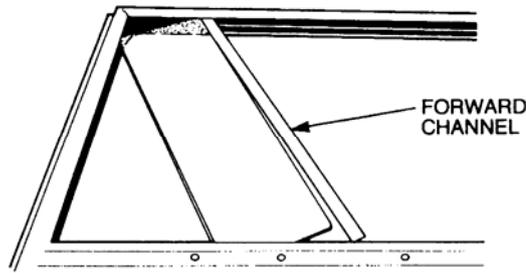

Figure 30 Quarter Window Glass Removal
- uu. Pull the forward channel from the glass (refer Figure 30).